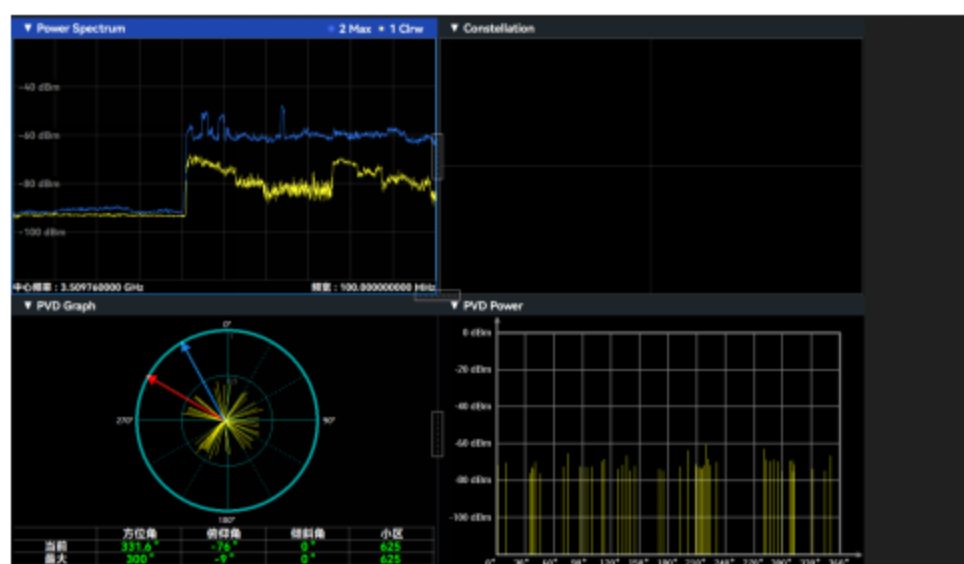

Figure 9.9
- After the above setting is completed, observe the spectrum map on the Power Spectrum sub-interface. If the direction antenna points in a certain direction, the RMT series spectrometer can identify the power value of the signal at the current frequency point in the direction. When the current value coincides with the maximum value, the direction of the direction antenna is the direction of the interference source. The test results are shown in Figure 9.9: